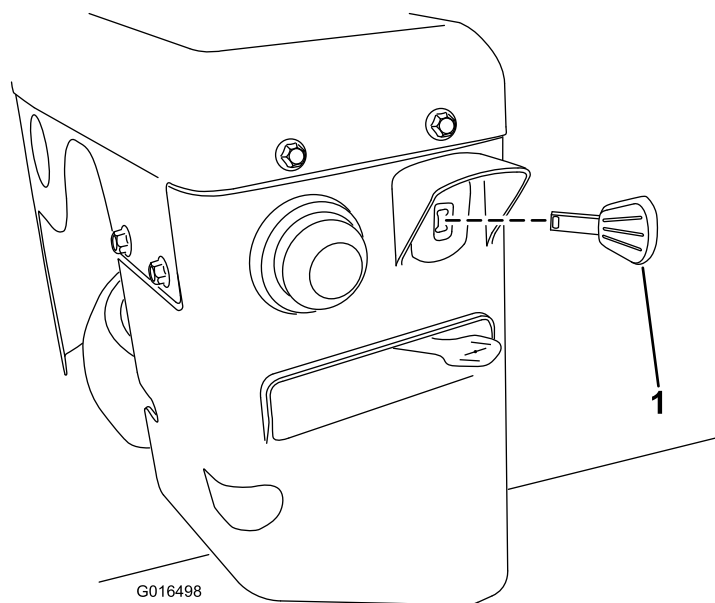

Figure 20
3. Fully insert the ignition key (Figure 20).